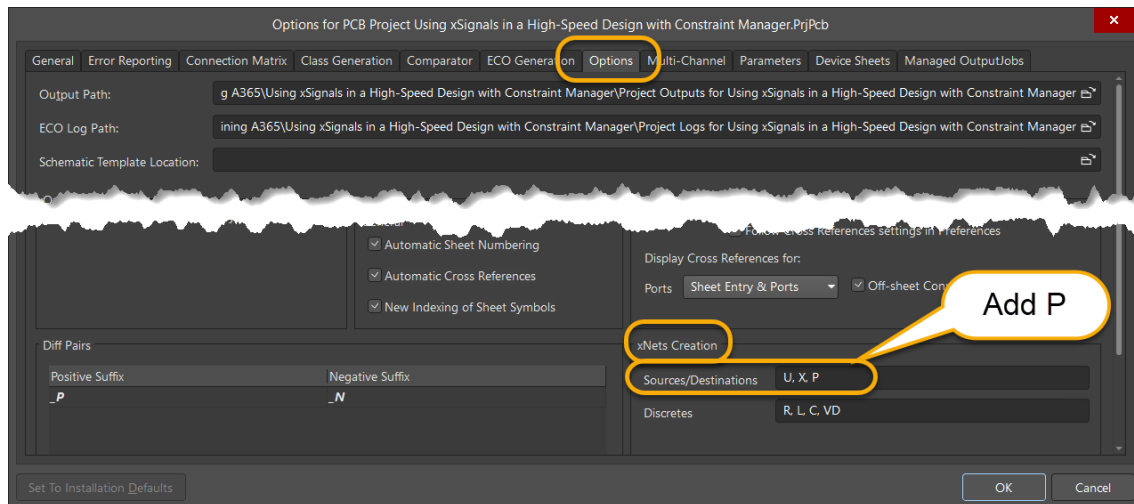

Figure 3. Project Options - Add Character P
14. At the lower right, there's a section *xNets Creation*, Figure 3: